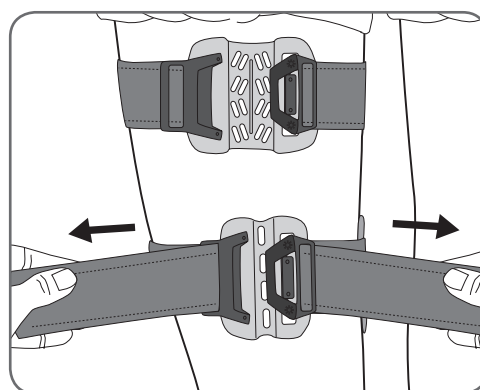

Figure 8-42: Tightening the straps.
3. Fasten and tighten the straps. See Figure 8-42.